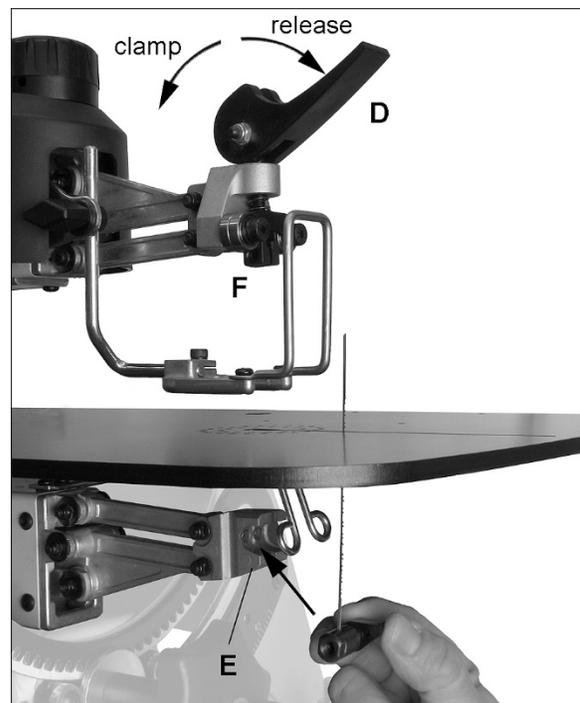

Figure 9-3: installing blade into guides
4. Flip tension lever (D, Figure 9-3) upward to release guide.
5. Guide blade up through table slot and push blade holder into lower blade chuck (E).
6. Push top end of blade into upper guide (F), making sure it rests between the contact points of guide set screws, and against the back stop.
7. Push down tension lever (D) to clamp blade. Do not over-tension blade; this can result in blade breakage or premature wear to clamping surfaces.